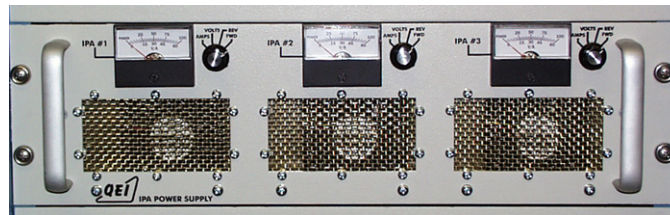

Figure 3-3
- 3.13 IPA Power Supply (Figure 3-3)